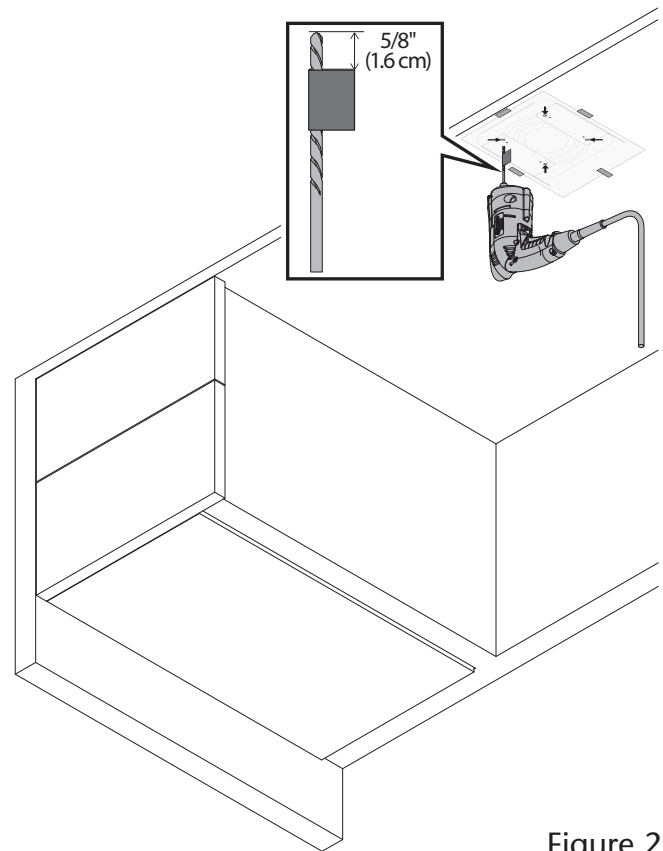

Figure 2
2. Tape the drill template (last page of this document) as shown to the surface you will attach the bracket (Figure 2).
4. Using either a 3/32-inch (2.5 mm) drill bit for softwood or 1/8-inch (3 mm) drill bit for hardwood, drill four 5/8-inch (1.6 cm) deep pilot holes through the drill template as shown (Figure 2).
Support Note: Wrap the drill bit with tape 5/8" (1.6 cm) from the tip to help you drill to the correct depth (Figure 2).